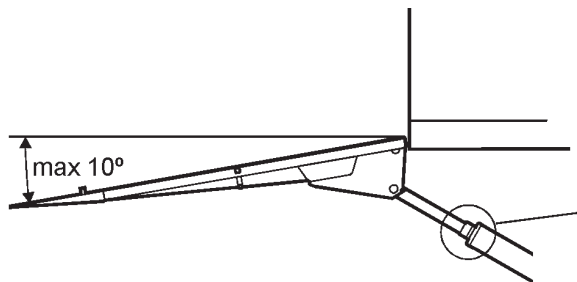

Figure 51. The tilt angle must be adjusted to max.10° down
3. Tilt the platform down to max 10 degrees below the horizontal plane. Figure 51.